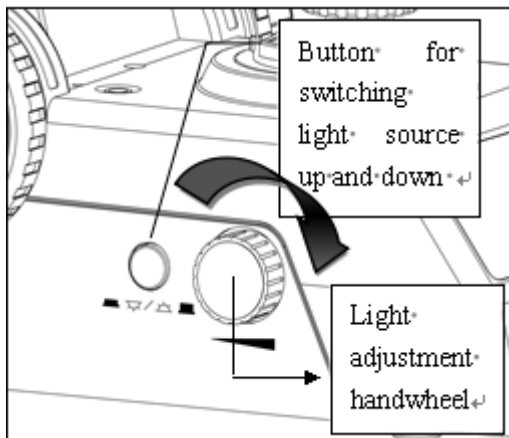

Fig 2
Light Source (fig 2)
1. Rotating the handwheel according to the direction indicated by an arrow on the figure 2, the brightness will increase. If not, brightness will reduce.
2. As shown in figure 2, when the light switch button is push-in, the light on the top is opening, as picture . When the light switch button is push-out, the light on the bottom is opening, as picture .